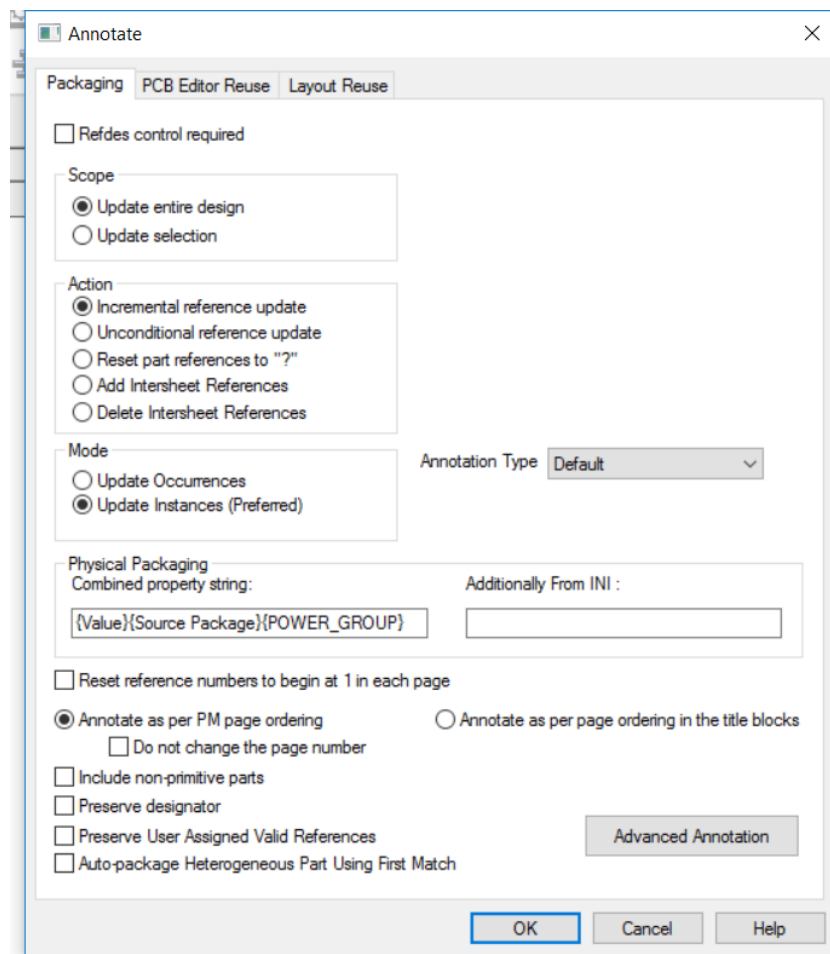

Figure 8: Annotation Settings
3. Tools → Annotate → Use the settings below in Figure 8